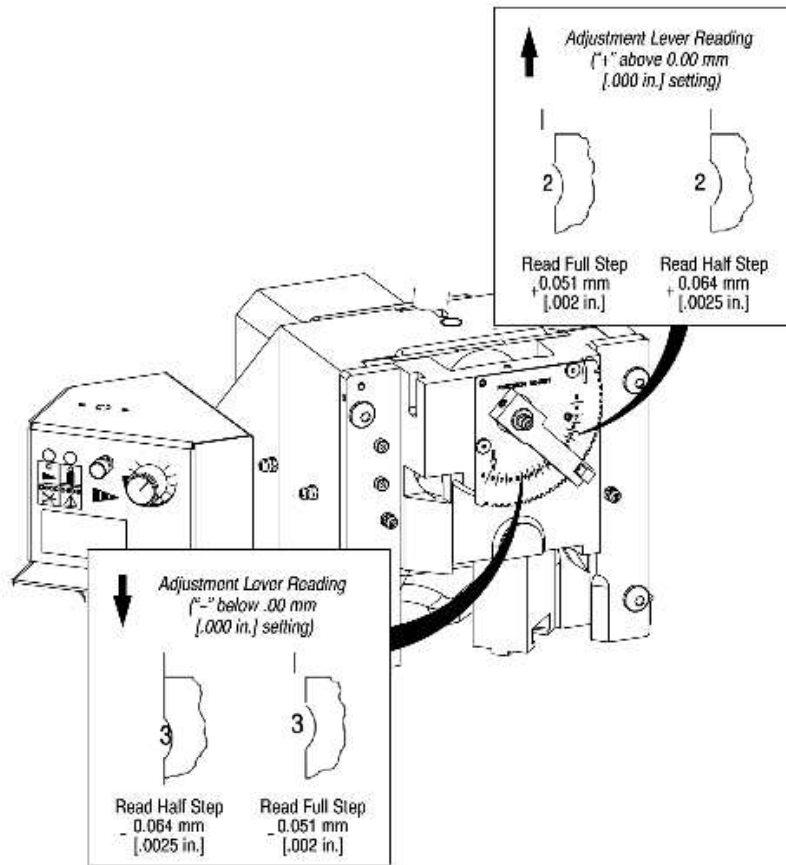

Figure 13
2. If the shut height is incorrect, refer to Figure 13, and proceed as follows: